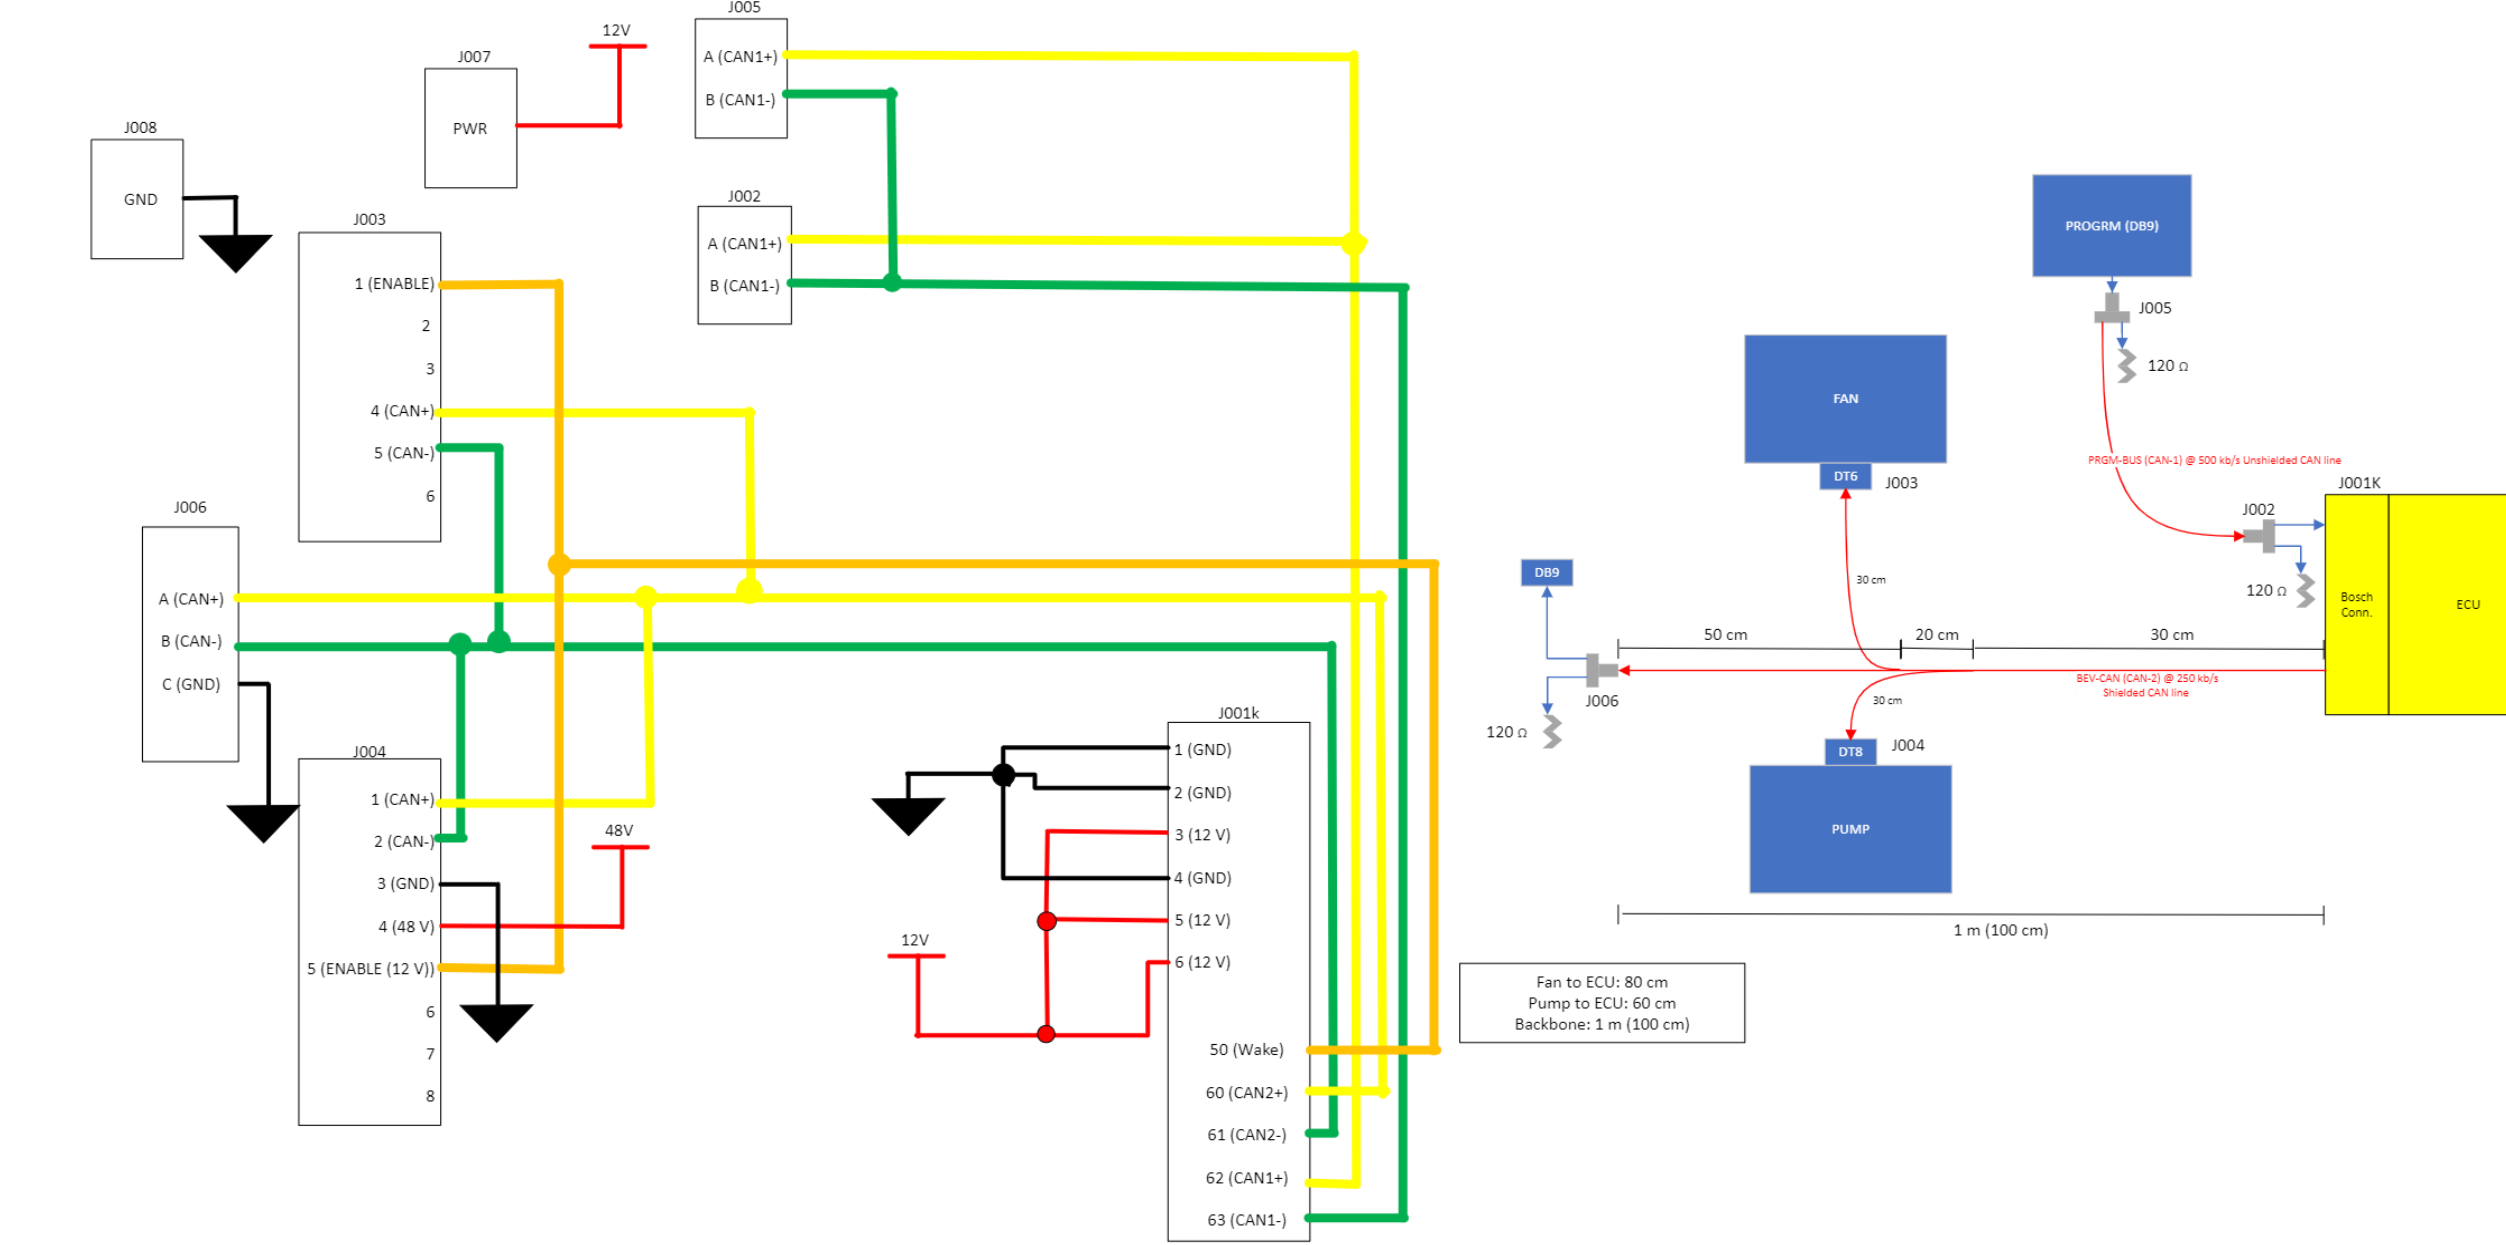

Figure 5: Prototype Testbench Diagram
- Our team built a physical testbench prototype to verify our proposed CAN architecture which tests the continuity of analog and CAN signals through DB9 ports (Figure 5).
Figure 5 shows an input/output for each pin (left) and a wiring schematic (right).